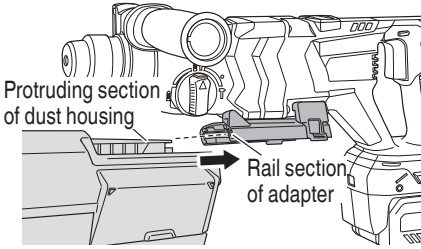

Fig. 5
- (3) To install the dust extractor system, insert the dust extractor system's rail into the adapter's rail slot and press until a click is heard. (Fig. 5)